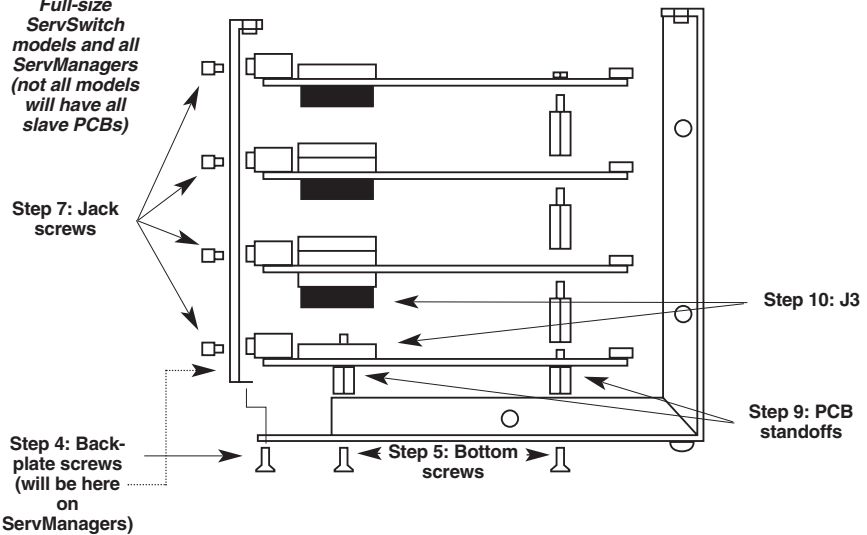

Figure E-1. Exploded left-side view.
4. Unscrew and remove the three screws that fasten the back panel to the bottom panel. On the ServManager and on mini ServSwitch models, these protrude from the back panel. On the other ServSwitch models, they are countersunk and are on the bottom panel. See Figure E-1 on the next page.
5. Unscrew and remove the screws on the Serv unit's bottom panel that fasten the unit's PCB(s) to the panel. On the ServManager and mini ServSwitch models, there are two of these; on the other ServSwitch models, there are three. See Figure E-1 on the next page.
7. Unscrew and remove the jack screws on the back panel that fasten the Serv unit's DB25 connectors to the panel. On 8-port units, there are 18 of these; on 12-port units, there are 26; on 16-port units, there are 34. See Figure E-1 on the previous page.
9. Unscrew and remove the PCB standoffs that attach the bottom ("master") PCB to the rest of the PCB stack. There will definitely be two of these at the front of the master PCB; there might also be one on the narrow right-hand end. See Figure E-1 on the previous page, Figure E-2 on the next page, and Figure E-3 on page 105.
13. Carefully plug the Overlay Option Board into J4, aligning the Board's mounting standoffs over the two mounting holes in the PCB. See Figure E-2 on the next page and Figure E-3 on page 105. For mini ServSwitch models, see also Figure E-1 on the previous page; for other ServSwitch models and ServManagers, see also Figure E-4 on page 107.
14. Mount the two washers included with the Overlay Option Board on the two screws that are also included. (You might have removed these from the Board's mounting standoffs in Step 12.) Screw the screws through the bottom of the PCB's mounting holes into the Overlay Board's standoffs. See Figure E-2 on the previous page. For mini ServSwitch models, see also Figure E-1 on page 101; for other ServSwitch models and ServManagers, see also Figure E-4 on page 107.